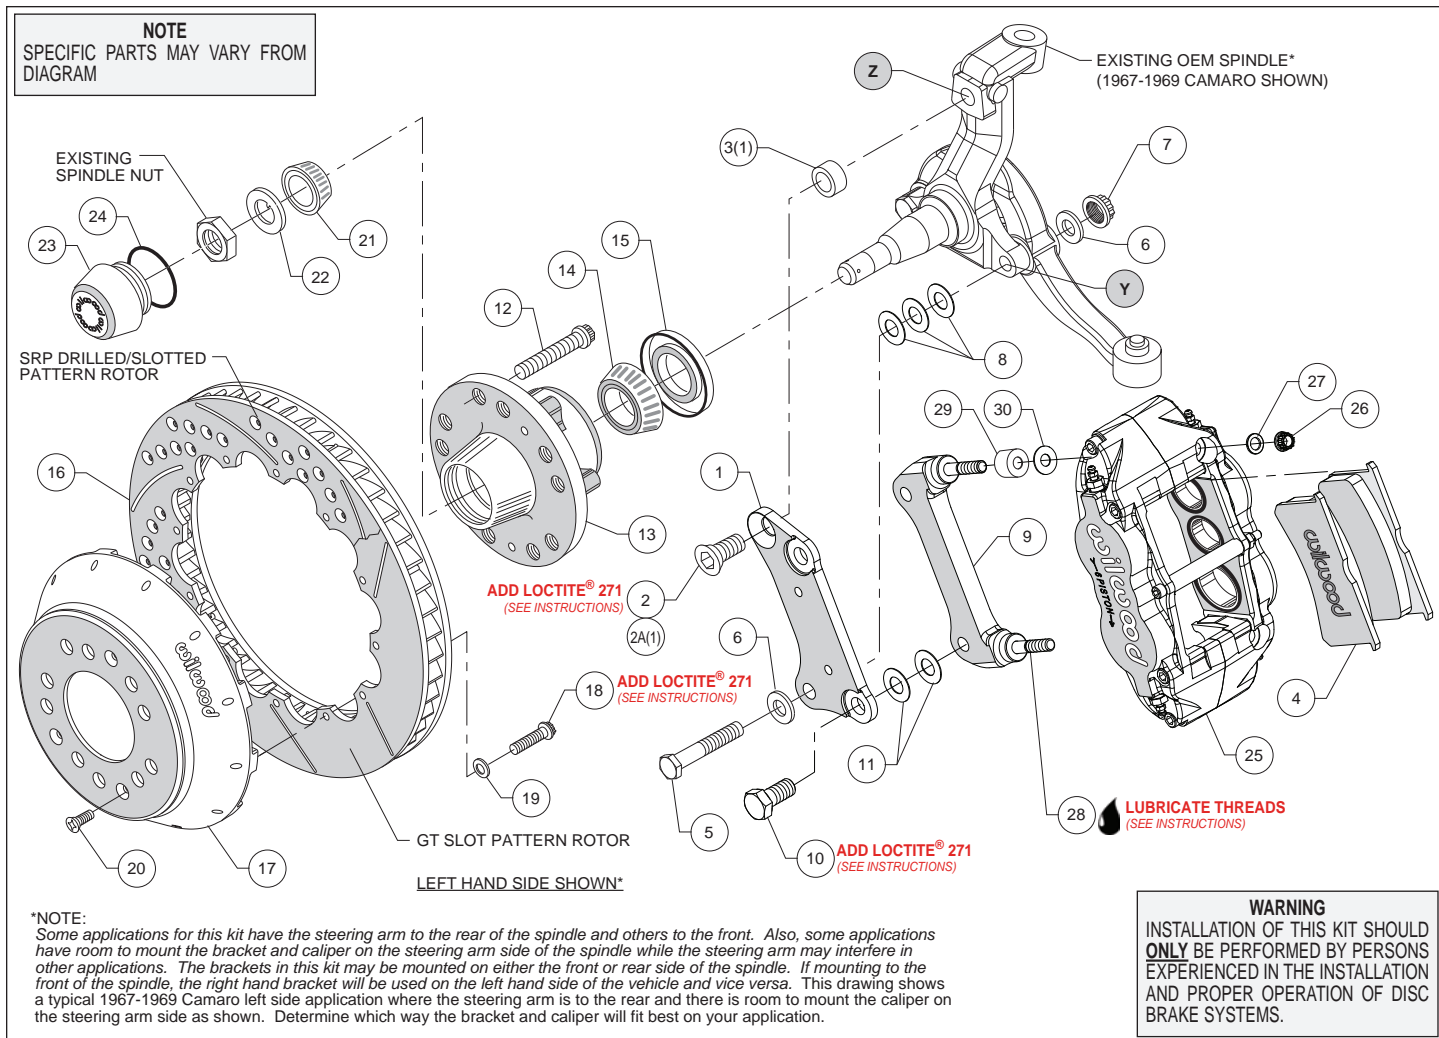
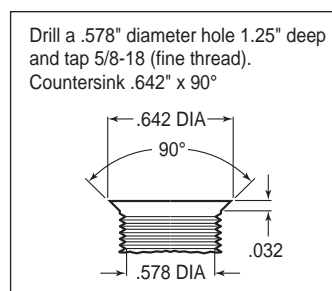
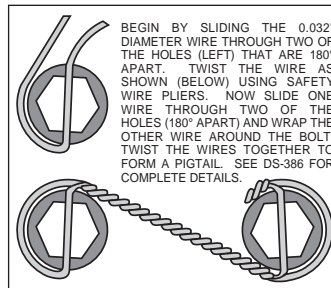

Figure 1. Typical Installation Configuration
Figure 3. Drill and Tap Detail
Figure 4. Safety Wire Diagram
Assembly Instructions (numbers in parenthesis refer to the parts list on the preceding page, and Figure 1):
•**NOTE:** Some applications for this kit have the steering arm to the rear of the spindle and others to the front. Also, some applications have room to mount the bracket and caliper on the steering arm side of the spindle while the steering arm may interfere in other applications. The brackets in this kit may be mounted on either the front or rear side of the spindle. If mounting to the front of the spindle, the right hand bracket will be used on the left hand side of the vehicle and vice versa. Figure 1 shows a typical 1967-1969 Camaro left side application where the steering arm is to the rear and there is room to mount the caliper on the steering arm side as shown. Determine which way the bracket and caliper will fit best on your application.
•**NOTE:** Some spindles in this year range may require the following modifications (reference Figure 1 and Figure 3): Top anchor pin hole (Z) must be drilled and tapped to the dimensions as outlined in Figure 3. The lower bolt hole (Y) in the spindle used to mount the new caliper bracket, and the mating steering arm hole, must be enlarged to .50" by drilling. It is recommended these modifications be performed by a qualified machinist.
•Install wheel studs (12) into the hub (13), Photo 1. Torque to 77 ft-lb. **NOTE:** There are two five lug patterns in the hub (5 x 4.50 and 5 x 4.75). Make sure of the correct hole pattern for the correct wheel application before installing studs into hub.
•Pack the large inner bearing cone (14) with high temperature disc brake bearing grease (available from your local auto parts store) and install into the backside of the hub (13).
•Install the grease seal (15) by pressing into the backside of the hub (13), Photo 2.
•Orient the rotor (16) and the hat (17) as shown in Figure 1 and Photo 3. Attach rotor to hat using bolts (18) and washers (19). Using an alternating sequence, apply red *Loctite*® 271 to the threads, and torque to 155 **in-lbs**. For an added measure of security, the bolts may be safety wired using standard 0.032 inch diameter stainless steel safety wire as shown in Figure 4. Please refer to Wilwood's data sheet DS-386 (available at www.wilwood.com/Pdf/DataSheets/ds386.pdf) for complete safety wire installation instructions.
- Disc Brake Spindle Application Only:** Follow the instructions below, but instead use bolt (2A), and spacer (3) in the upper bolt hole location, Figure 1.
- Orient the flat bracket (1) as shown in Figure 1 and Photo 4, and install using bottom bolt (5), washers (6), and nut (7), Figure 1. Initially place three .032" thick shims (8) between the bracket and spindle. Install the upper bolt (2 or 2A). Temporarily tighten bolts. **NOTE:** The bracket must fit squarely against the mounting surfaces on the spindle. Inspect for interference from casting irregularities, machining ridges, burrs, etc. Temporarily install the new hub, hat and rotor assembly. Check that the bracket is aligned parallel to the rotor, Photo 5. If not, adjust by adding or subtracting shims (8) on the lower bolt between the bracket and spindle, Figure 1. Once the bracket alignment is correct, remove the upper bolt (2 or 2A), apply red *Loctite*[®] 271 to the bolt threads, and torque to 120 ft-lb. Torque the lower lock nut to 65 ft-lb.
- The radial mount caliper bracket (9) should initially be installed with clean, dry threads on the mounting bolts. Orient the bracket as shown in Figure 1 and Photo 6, and install using bolts (10). Initially place two .029 thick shims (11) on each bolt between the two brackets, Figure 1. Temporarily tighten the mounting bolts. Later, after the caliper alignment has been checked, the mount bolts will be secured using red *Loctite*[®] 271.
- Pack the small outer bearing cone (21) with high temperature disc brake bearing grease and install into hub (13). Final install the hub assembly onto the spindle. Secure using spindle washer (22) and OEM spindle nut, Photo 7. Adjust bearings per OEM specifications. Install saved OEM nut lock (if any) and a new cotter pin (not included).
- Screw dust cap (23) into hub (13). Friction created by the o-ring (24) on the dust cap keeps it from unscrewing. **NOTE:** The O.D. of the existing OEM spindle washer may be larger than the I.D. of the dust cap not allowing it to seat against the hub face. Therefore, use the spindle washer (22) supplied with the kit instead of the OEM washer.
- Final install the rotor (16 and 17) assembly onto the hub (13), taking care to align the small countersunk holes in the hat with the small threaded holes in the hub. **NOTE:** The hat must fit flush against the hub face or excessive rotor run out may result. Install three flat head screws (20) through the small holes in the hat (17), Photo 8, and torque to 85 in-lb.
- NOTE:** This kit contains distinct right and left hand calipers that must be mounted in a specific direction, as described below. Lubricate the caliper mounting studs (28) with lightweight oil. Initially place spacer (29) and one .035" thick shim (30) on each stud between the caliper and the bracket, as shown in Figure 1 and Photo 9. Mount the caliper (25) onto the bracket (9) using lock nuts (26) and washers (27), Figure 1. Ensure that the caliper is mounted so the largest pistons are at the rotor exit end of the caliper, in relation to the direction of rotor rotation. Temporarily tighten the lock nuts. The rotor should be centered in the caliper, Photo 10. If not, adjust by adding or subtracting shims (11) between the flat bracket (1) and the caliper bracket (9). Always use the same